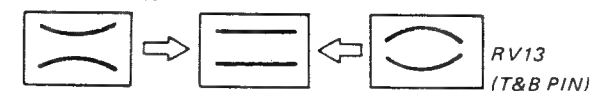

Fig. 29-8
2. Adjust T&B pin distortion gain by turning DA board RV30 as shown in Fig. 29-8.